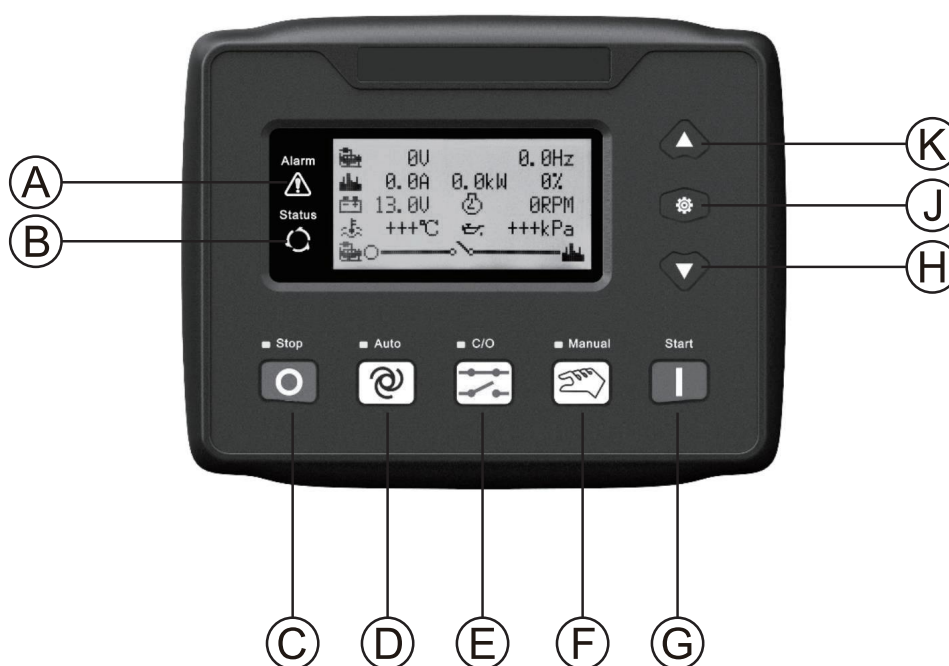

Figure 11
1. After the generator controller is powered on, hold down the button (J, Figure 11) to enter the parameter setting menu. The menu items include: